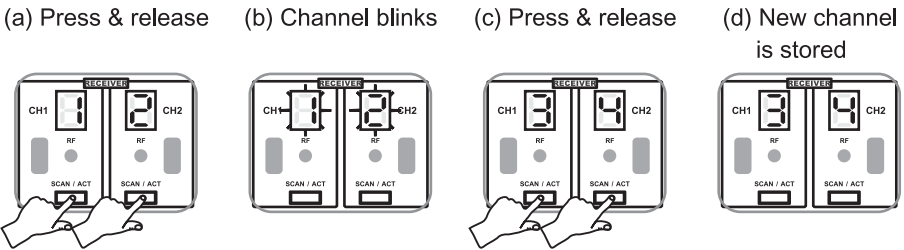

Fig. 3
- (1) To Scan for a Clear Receiver Channel: Press & hold the SCAN/ACT button **24** until current channel blinks. Release the button, blinks will last for 10 times and stop on the current channel. During blinking, press & release the SCAN/ACT button again and the receiver scans and sets at a clear channel automatically. Then the new channel will be stored, Fig. 3.